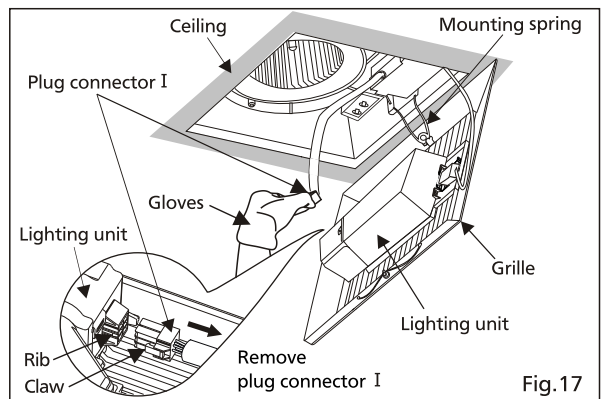

Fig.17
1. Remove grille by pulling down one mounting spring. Remove plug connector I and sensor unit, then pull down **the other** mounting spring. (Squeeze mounting spring and pull down carefully) (Fig.17)